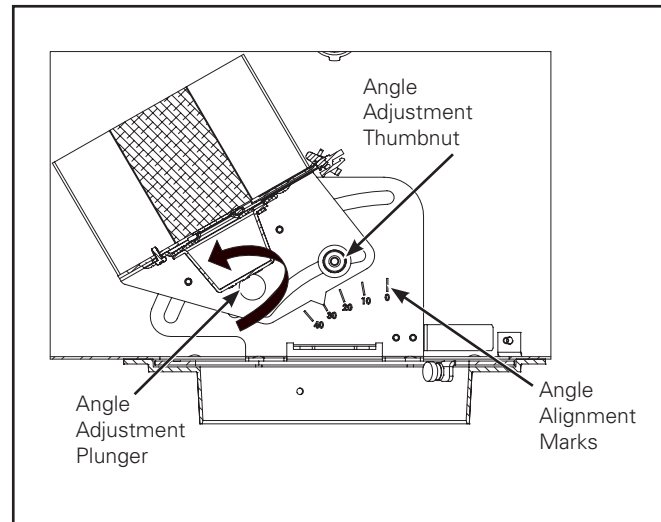

Figure 3.
1. Loosen Angle Adjustment Thumbnuts (2) through Plaster Ground opening but do not remove (Figure 3).
2. Pull Angle adjustment plunger to change tilt and release for rough adjustment in 10 degree increments. Angle alignment marks provided for reference (Figure 3).